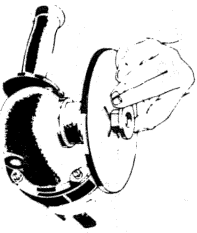

Fig. 5
- 2) Screw the Clamp Washer PARTIALLY onto the spindle. (Fig. 5)